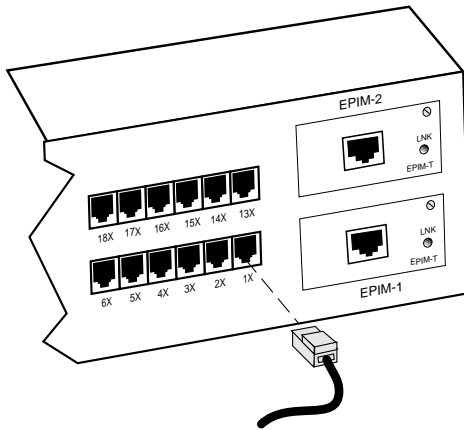

Figure 4-1. SEH-22/24 Network Ports
1. Insert the RJ45 connector from each twisted pair segment into the desired network port on the SEH. See Figure 4-1.